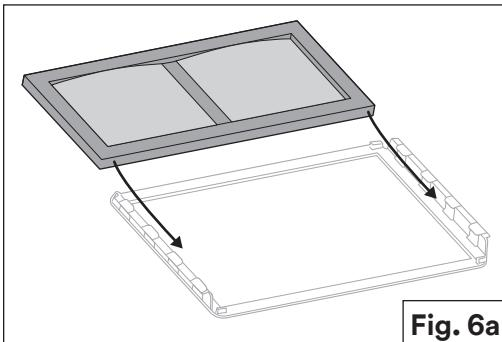

Fig. 6a
- a. Choose the appropriate lens and insert it into the lens holder (Fig. 6a).